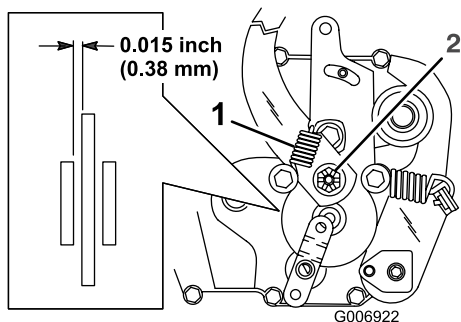

Figure 30
The parking brake is on the right side of the rear axle, inside the rear tire (Figure 30). If the parking brake does not hold securely, adjust it.
2. Remove the brake arm spring (Figure 30).
3. Remove the cotter pin that secures the brake adjusting nut and slightly loosen the nut (Figure 30).
4. Insert a 0.015 inch (0.38 mm) feeler gauge between the brake disc and brake puck (Figure 30).